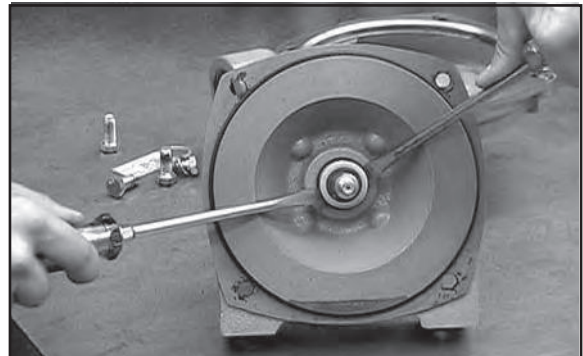

Figure 8
- Lightly lubricate the Shaft for easier removal of the Seal. Using two screwdrivers positioned opposite each other, pry the rotary portion of the Seal from the Shaft (See Figure 8).